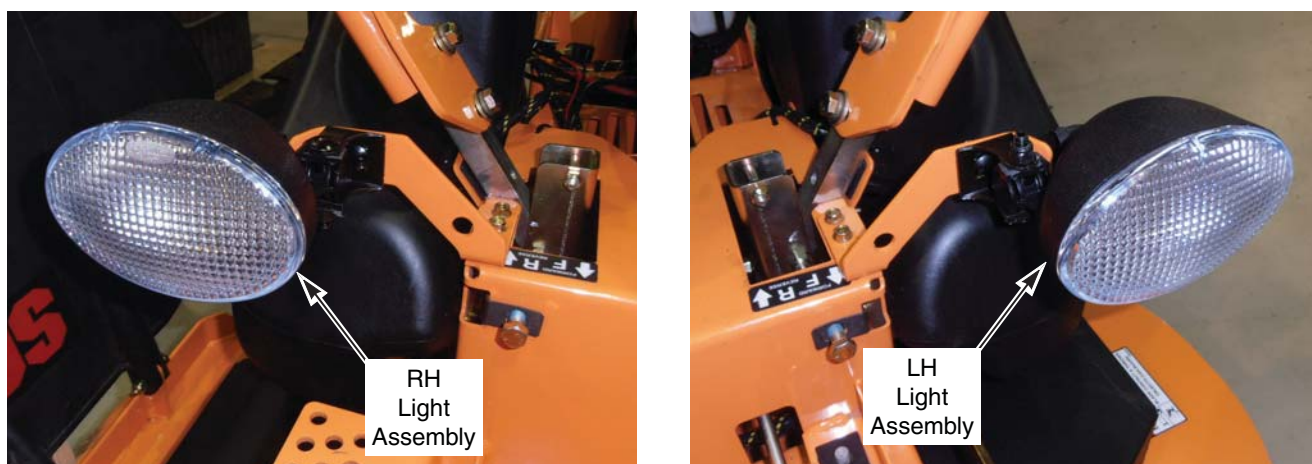

Figure 4. Install RH & LH Light Assembly(s)
5. Install the (2) two light assemblies to the mounting brackets on the right and left side of the machine. See Figure 4. Aim the lights forward and tilt slightly downward. Tighten the light mounting nut(s). Adjustment may be needed after installation has been completed for proper light position.